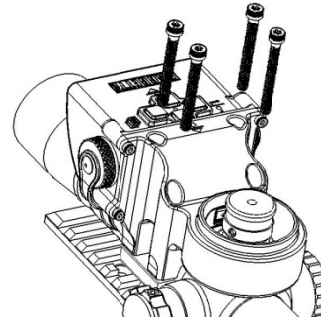

Figure 2-6
5. Place the BORS unit on top of the rear scope ring. Start the four BORS mount screws (T-25 Torx® wrench), but do not tighten them. Figure 2-6.